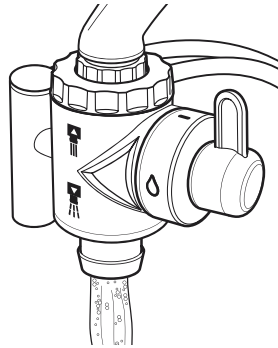

Figure 7.1 – Diverter Handle in Up (Non-Filter) Position
1. With water faucet on, move diverter handle to the vertical (non-filter) position (see Figure 7.1). This assures that you have full-flow at faucet. Contact water company or plumber for solutions to correct low flow at faucet.